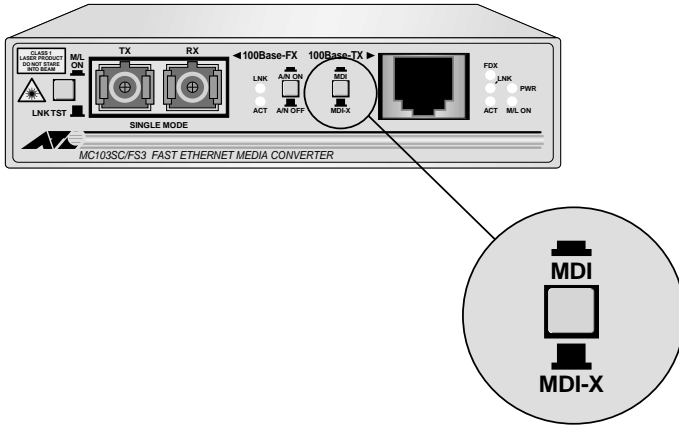

Figure 7 MDI/MDI-X Switch
- If you are connecting a hub, switch, or another media converter to the twisted pair port, set the MDI/MDI-X switch to the MDI (IN) position. Refer to Figure 7 for the location of the MDI/MDI-X button.